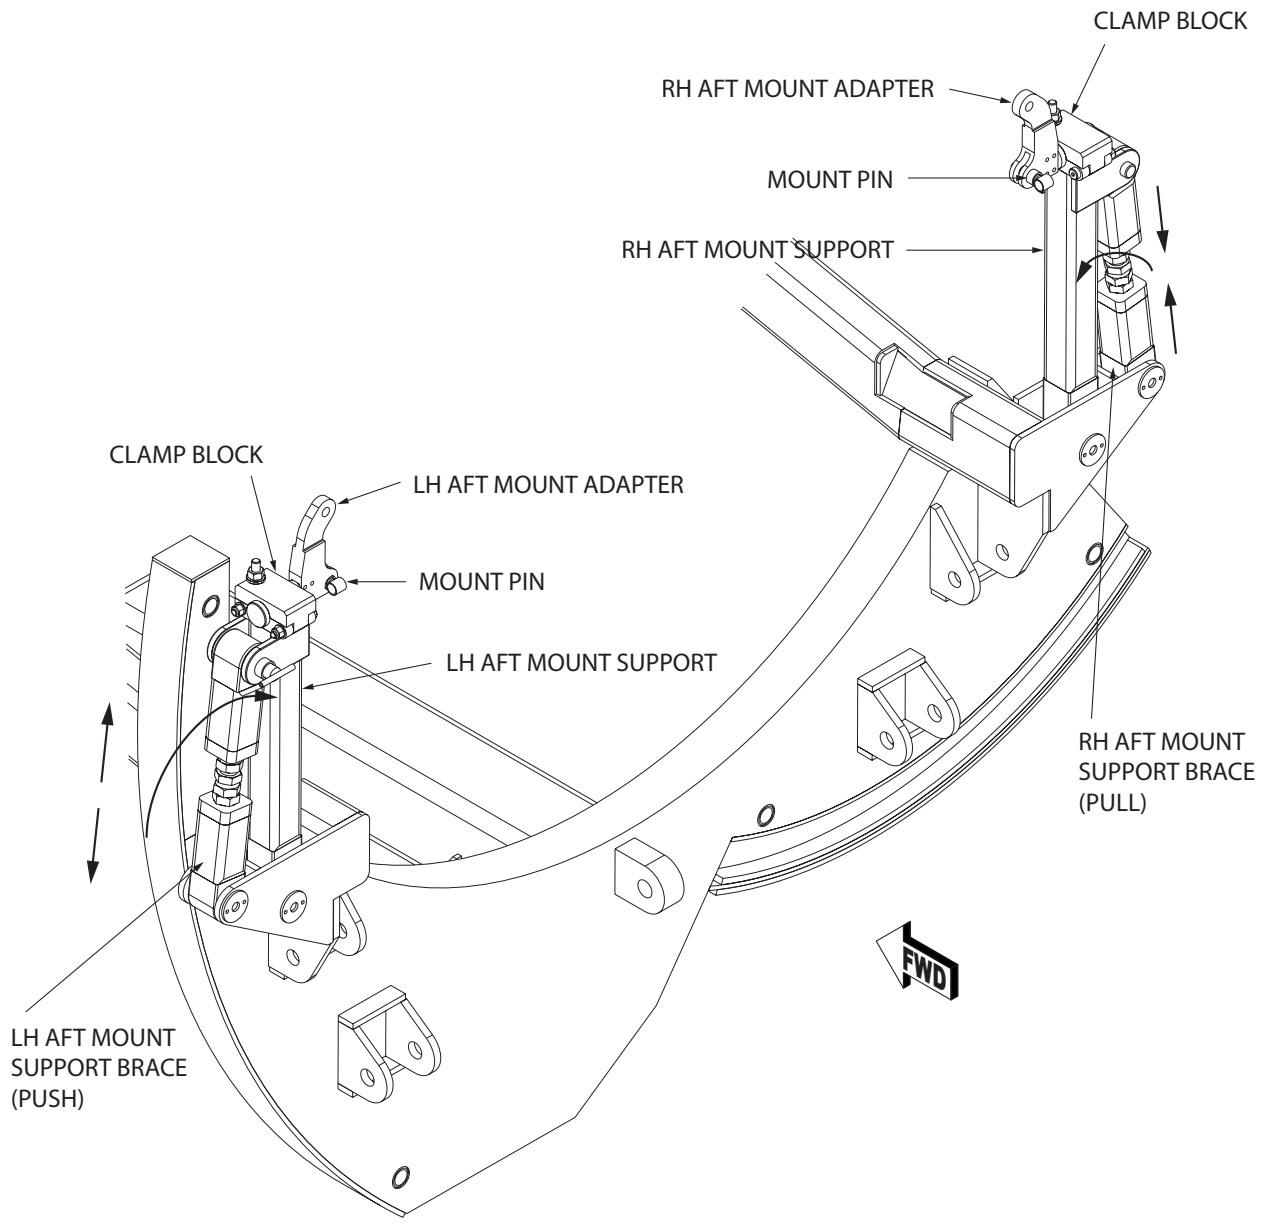

Figure 5.2-3 AFT Mount Installation
- 7) Rotate the AFT mount supports up to trunnions. (Figure 5.2-3)
- RH IN Tension(Pull) (Figure 5.2-3)
- LH IN Compression (Push) (Figure 5.2-3)